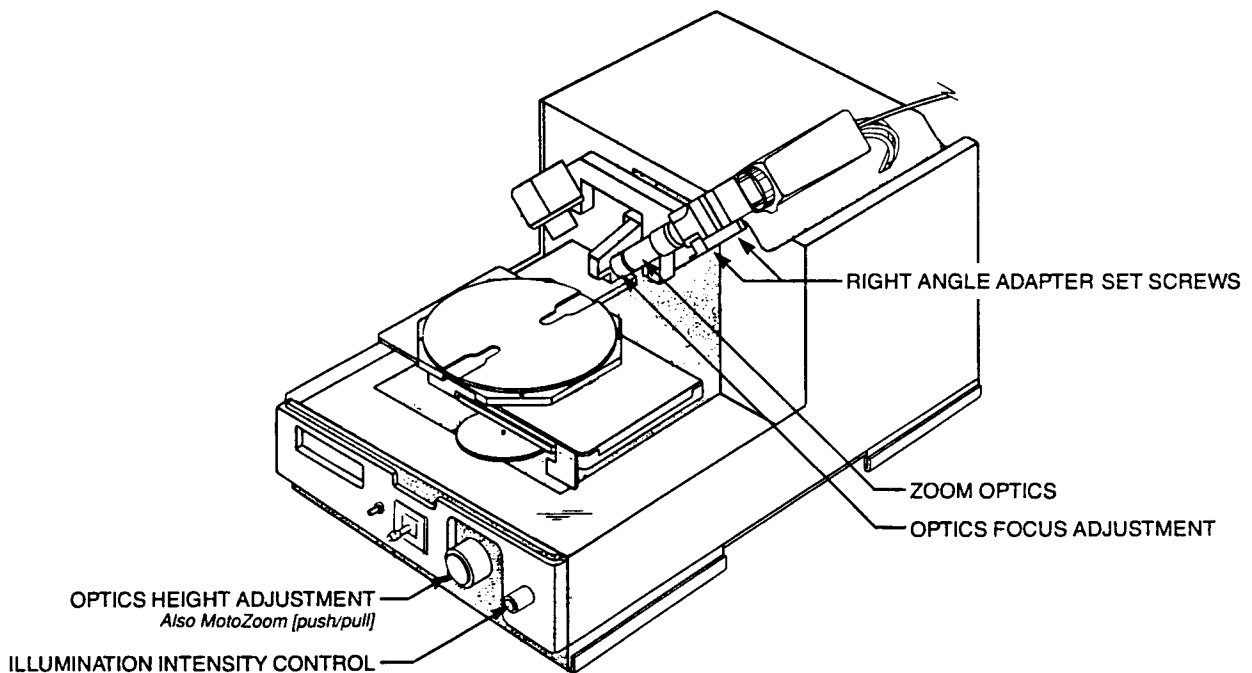

Figure 1-20. Optics Assembly
8. Fine focus adjustments of the sample surface image may be obtained by rotating the optics focus adjustment (see Figure 1-20).
1. To adjust the position of the stylus image along the horizontal axis of the software reticle, use a 9/16" hex driver to loosen the two right angle adapter set screws (see Figure 1-20).